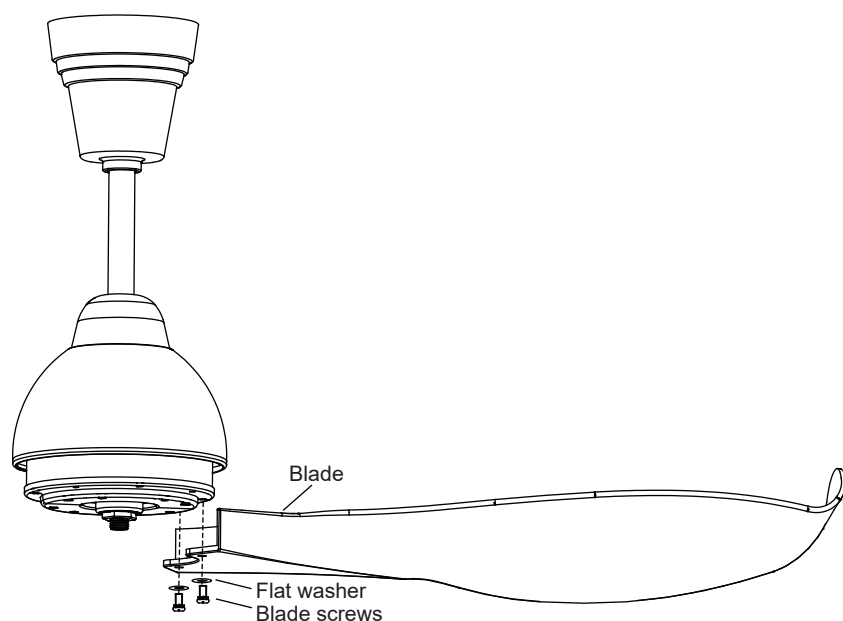

Fig.8
1. Insert the blade screws through the flat washer and blade then secure the blade to the motor by tightening the 3 screws .(Fig.8)